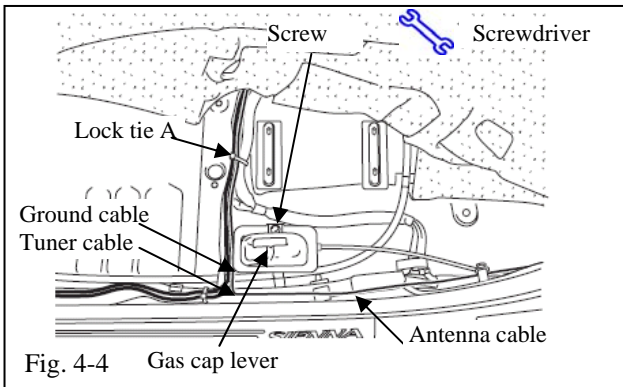

Fig. 4-4
- (g) Remove screw and remove gas cap lever as shown. (Fig. 4-4)
- (h) Route the ground cable, the tuner cable, and the antenna cable under e-brake cable, with existing wire harness, and through the openings in the carpet. Secure the cables to the existing harness with a lock tie A as shown. (Fig. 4-4)